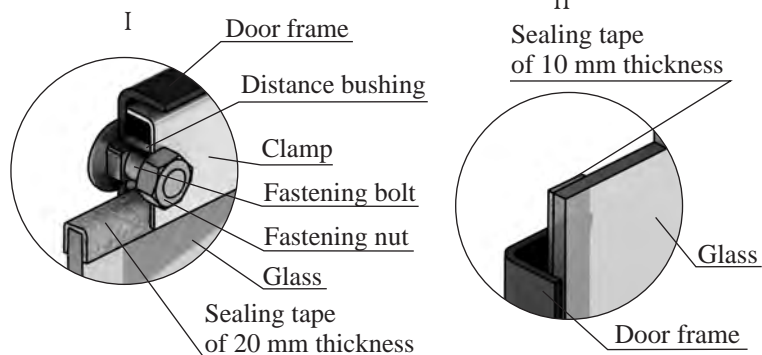

Figure 9. Fastening of translucent screen of the «Vitra» model door
1. Unscrew two nuts fixing the clamp (fig.9.I), and disassemble it and distance bushings.
3. Take new glass and if it doesn't have thread sealing tape stick them: tape of 20 mm in width is stuck from the top and from below the glass, in a «П» shape (fig. 9.I), tape of 10 mm in width is stuck vertically, along the lateral sides of the glass (fig. 9.II).
4. Insert the glass into the stop, at that the tape stuck from the lateral sides (vertical) shall be pressed between the glass and the door frame (fig. 9.II).
*ATTENTION! Nuts fastening the clamp are screwed to the mounting bolts through the remote plugs (Figure 9.I).*